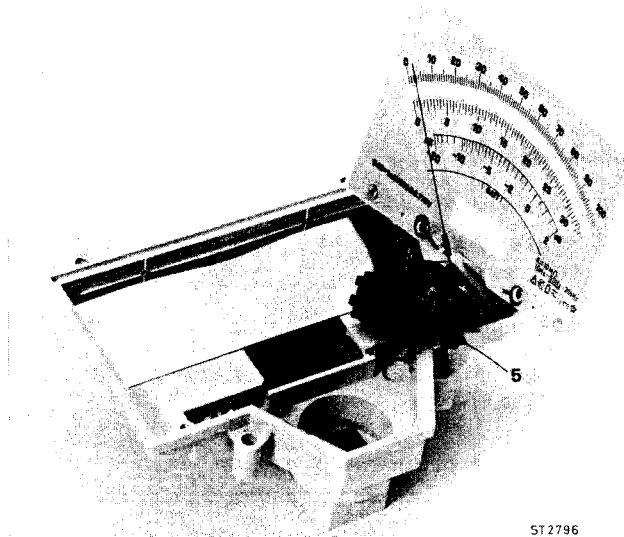

Fig. 18. Replacing the polarity indicator
- Lever the window from the container by putting e.g. a screwdriver in the lever point (item 4).
- Unsolder the screen-wire (item 2).
- Remove the two screws (item 1) which fix the measuring system to the container.
- Take the measuring system out of the container, place it on the container (Fig. 18).